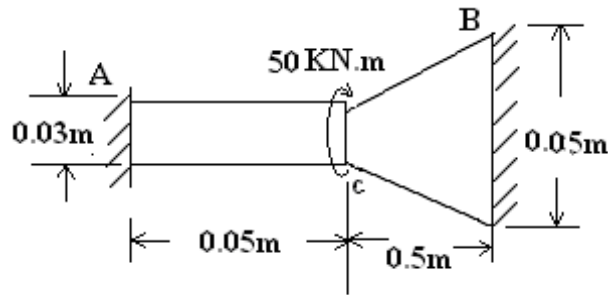

Figure 7
7. A transmission shaft is composed of straight section of diameter 30 mm and a section that tapers to a diameter of 50 mm as shown in figure 7. The input torque at point C is 50 kN.m. Determine the reactions by Rayleigh Ritz Method. Use  $G=50 \text{ G Pa}$ . [16]